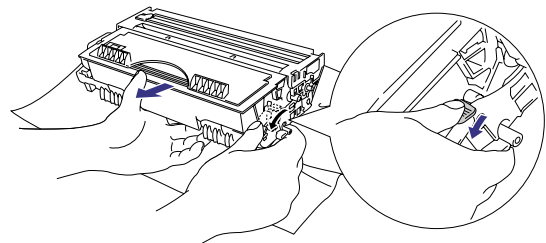

Fig. 5-1
- (1) Open the front cover of the printer and pull out the drum unit.
- (2) Place the drum unit on a flat, horizontal surface, and remove the toner cartridge from the drum unit while pushing the lock lever down with your right hand. (Fig. 5-1)
- (3) Unpack the new drum unit.